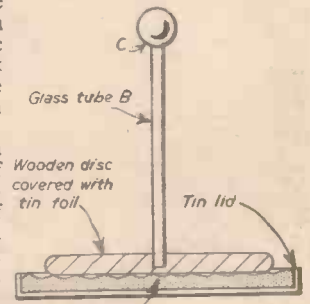

Fig. 7.—The completed electrophorus.
Make a wooden disc, 8in. in diameter and 1in. thick; round off the edge of this and cover with tinfoil. Glue a strip of foil around the edge first and then glue two discs of foil 7 1/2in. in diameter on the top and bottom. Make a small hole in the centre of this disc, and fix a glass tube into it (B) with a wood knob (C), as shown in Fig. 7.